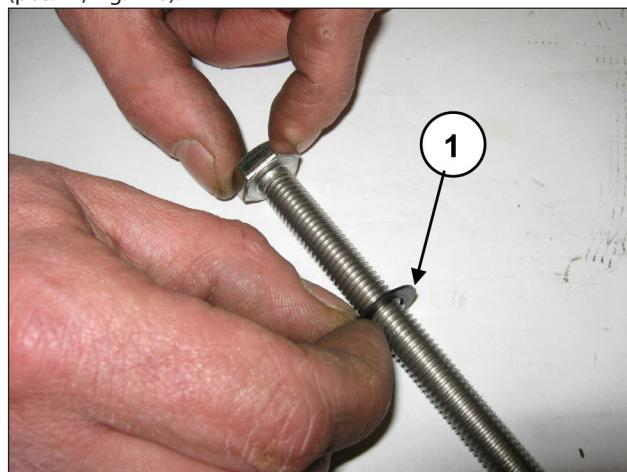

Fig. 176
Insert the Ø10x18x0.9 washer in the piston fixing screw (pos. ①, Fig. 176).